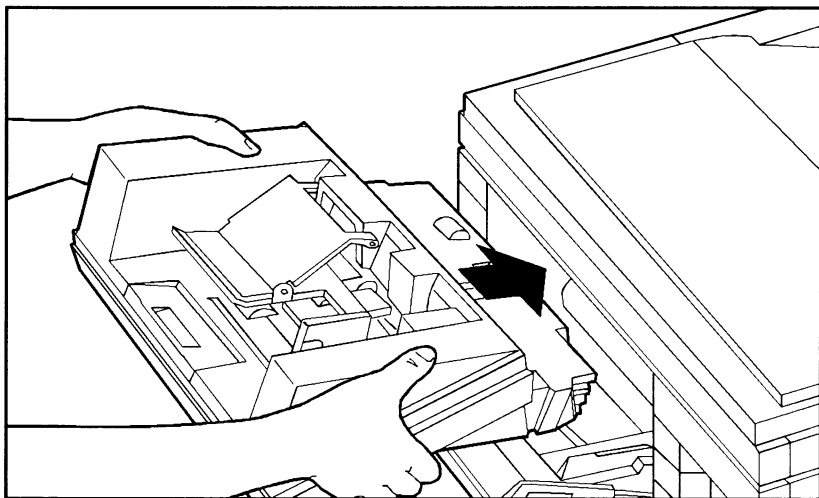

Figure 3-22 Install the Envelope Feeder
- 4 Insert the Envelope Feeder firmly into the printer (see Figure 3-22).